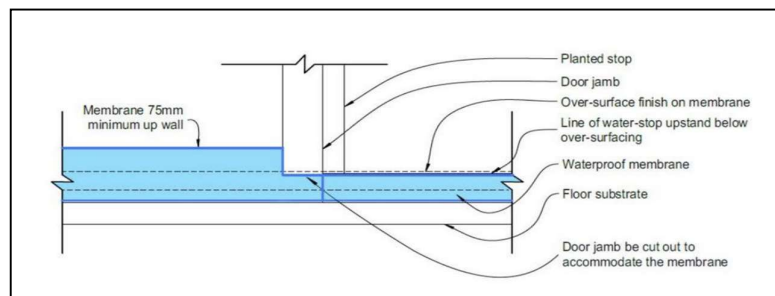

Figure 19:Elevation/edge of door jamb with water-stop under door
- ✓ Figure 19: Elevation/edge of door jamb with water-stop under door